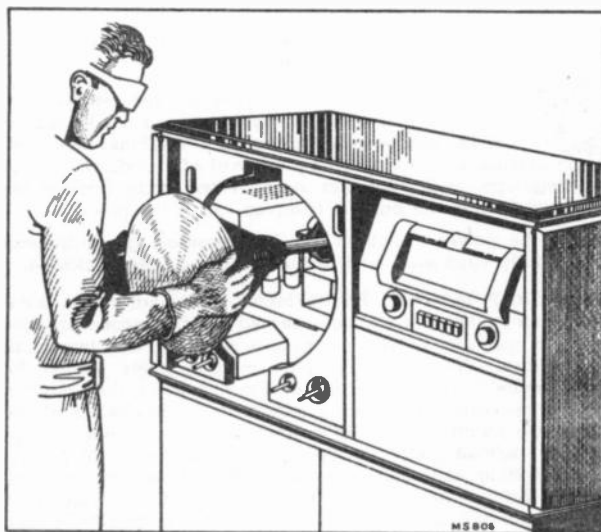

Figure 4—Kinescope Insertion
**KINESCOPE INSTALLATION.**—Turn the kinescope so that the key on the base of the tube will be down and insert the neck of the kinescope through the deflection and focus coils as shown in Figure 4. If the tube sticks, or fails to slip into place smoothly, investigate and remove the cause of the trouble. Do not force the tube.